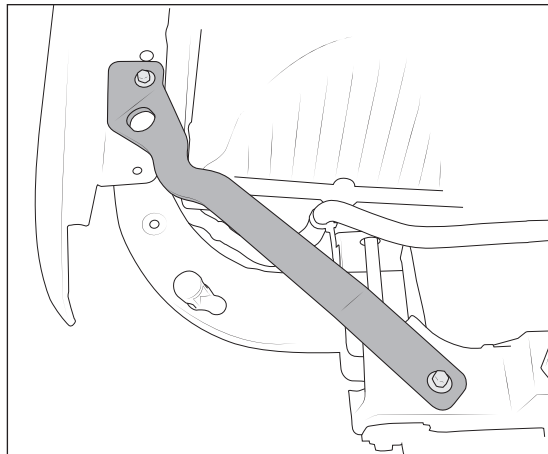

Figure 17
12. Install the AEV provided radiator support bracket using the hardware saved during disassembly (fig 17).